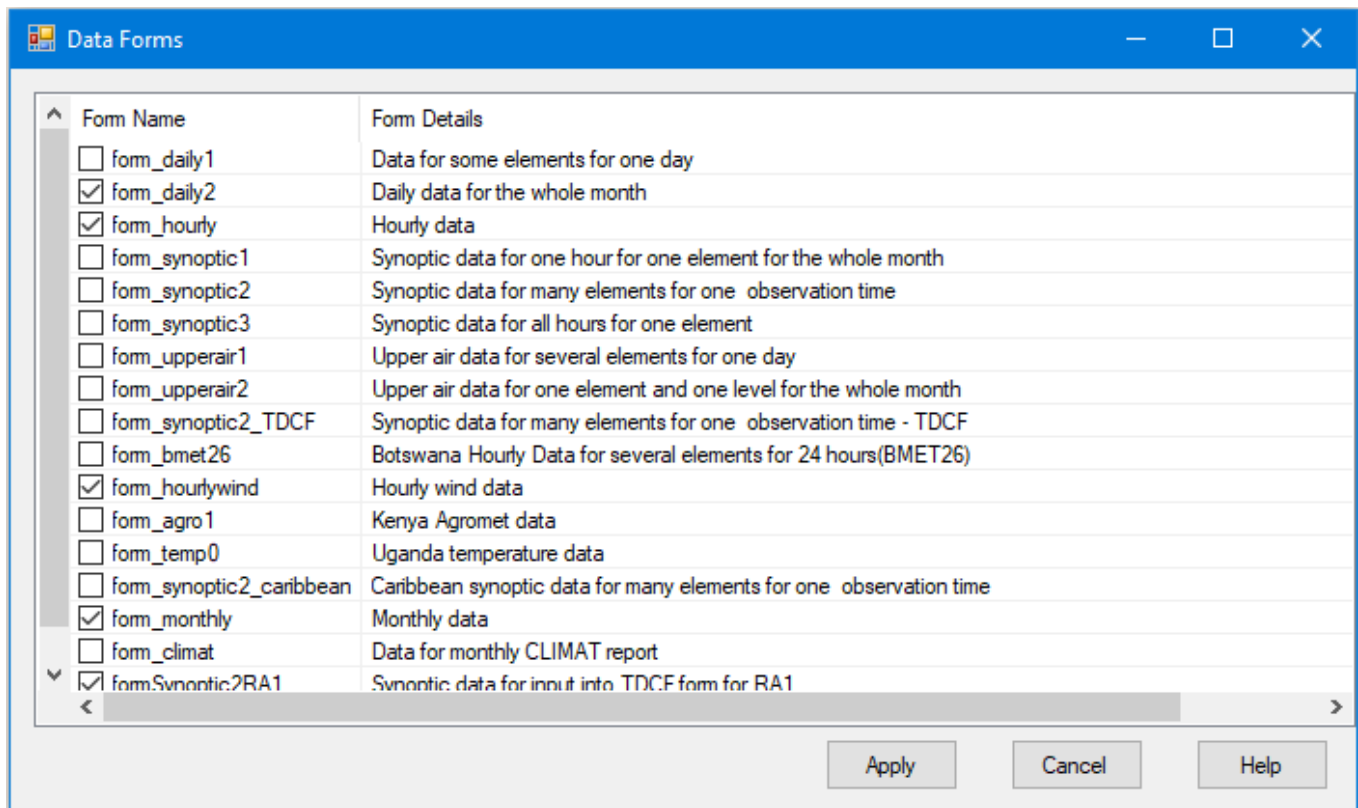

Figure 24: Key Entry Forms Settings
- From the Welcome form click the menu **Administration** then **Data Forms** to obtain the dialog in Figure 24.